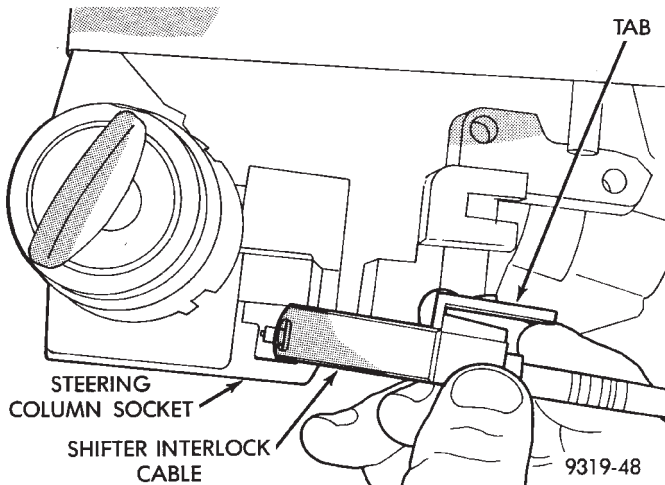

Fig. 10 Shifter Interlock Cable Removal
(17) Turn ignition key to the run position unlocking steering column. Depress tab and remove floor shift interlock cable from steering column socket (Fig. 10).